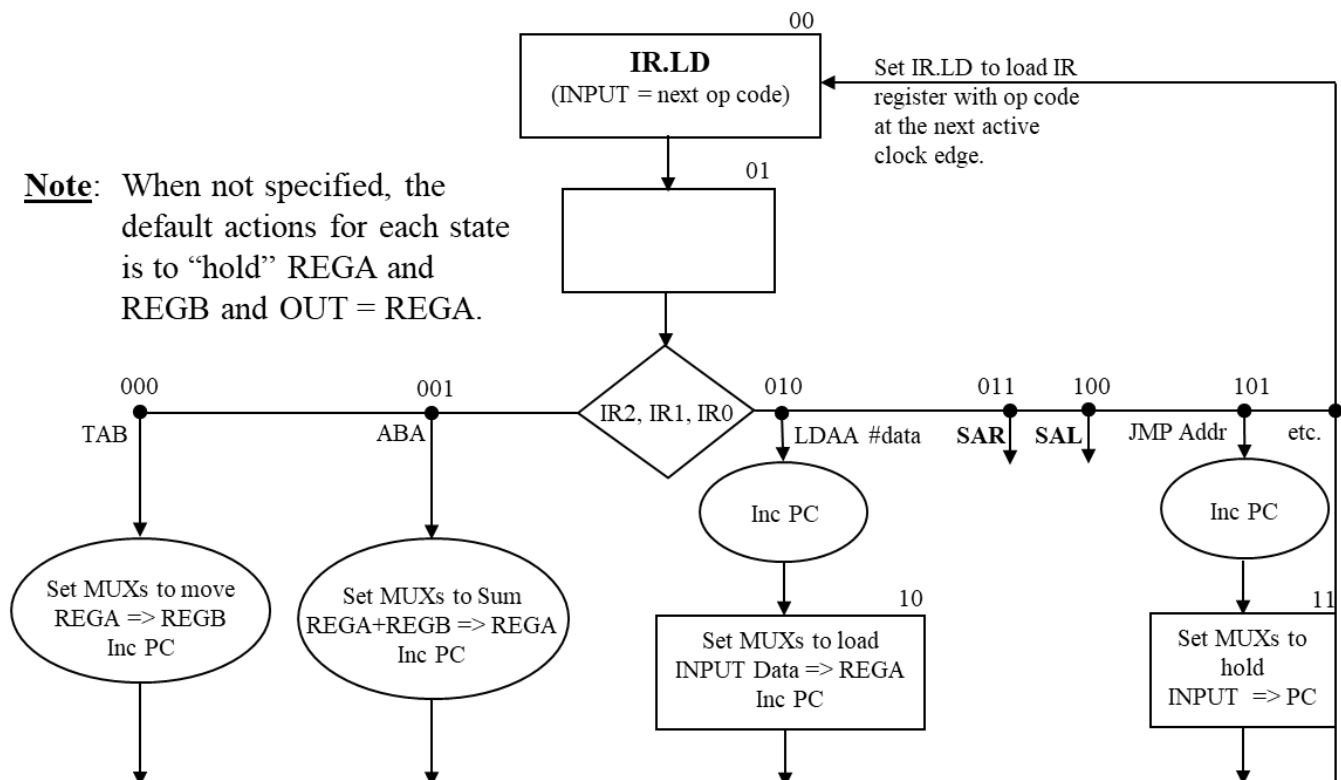

Figure 4. Controller flowchart (not an ASM).
1. All the manual switching that you would need to do if part 1 of this lab was built (e.g., setting the INPUT = next op code or data) can be better accomplished by incrementing the address on the ROM. The ROM will have the information that (in part 1 of this lab) would have come from switches (or your DAD). This is accomplished by incrementing the PC register or "Inc PC," as shown in the Figure 4 flowchart.
- Create an ASM chart using the Figure 4 flowchart as an aid, i.e., utilize the actual signals to control the PC, IR, and the MUXs. Complete the ASM diagram, by also including the required elements for the SAR and SAL instructions.